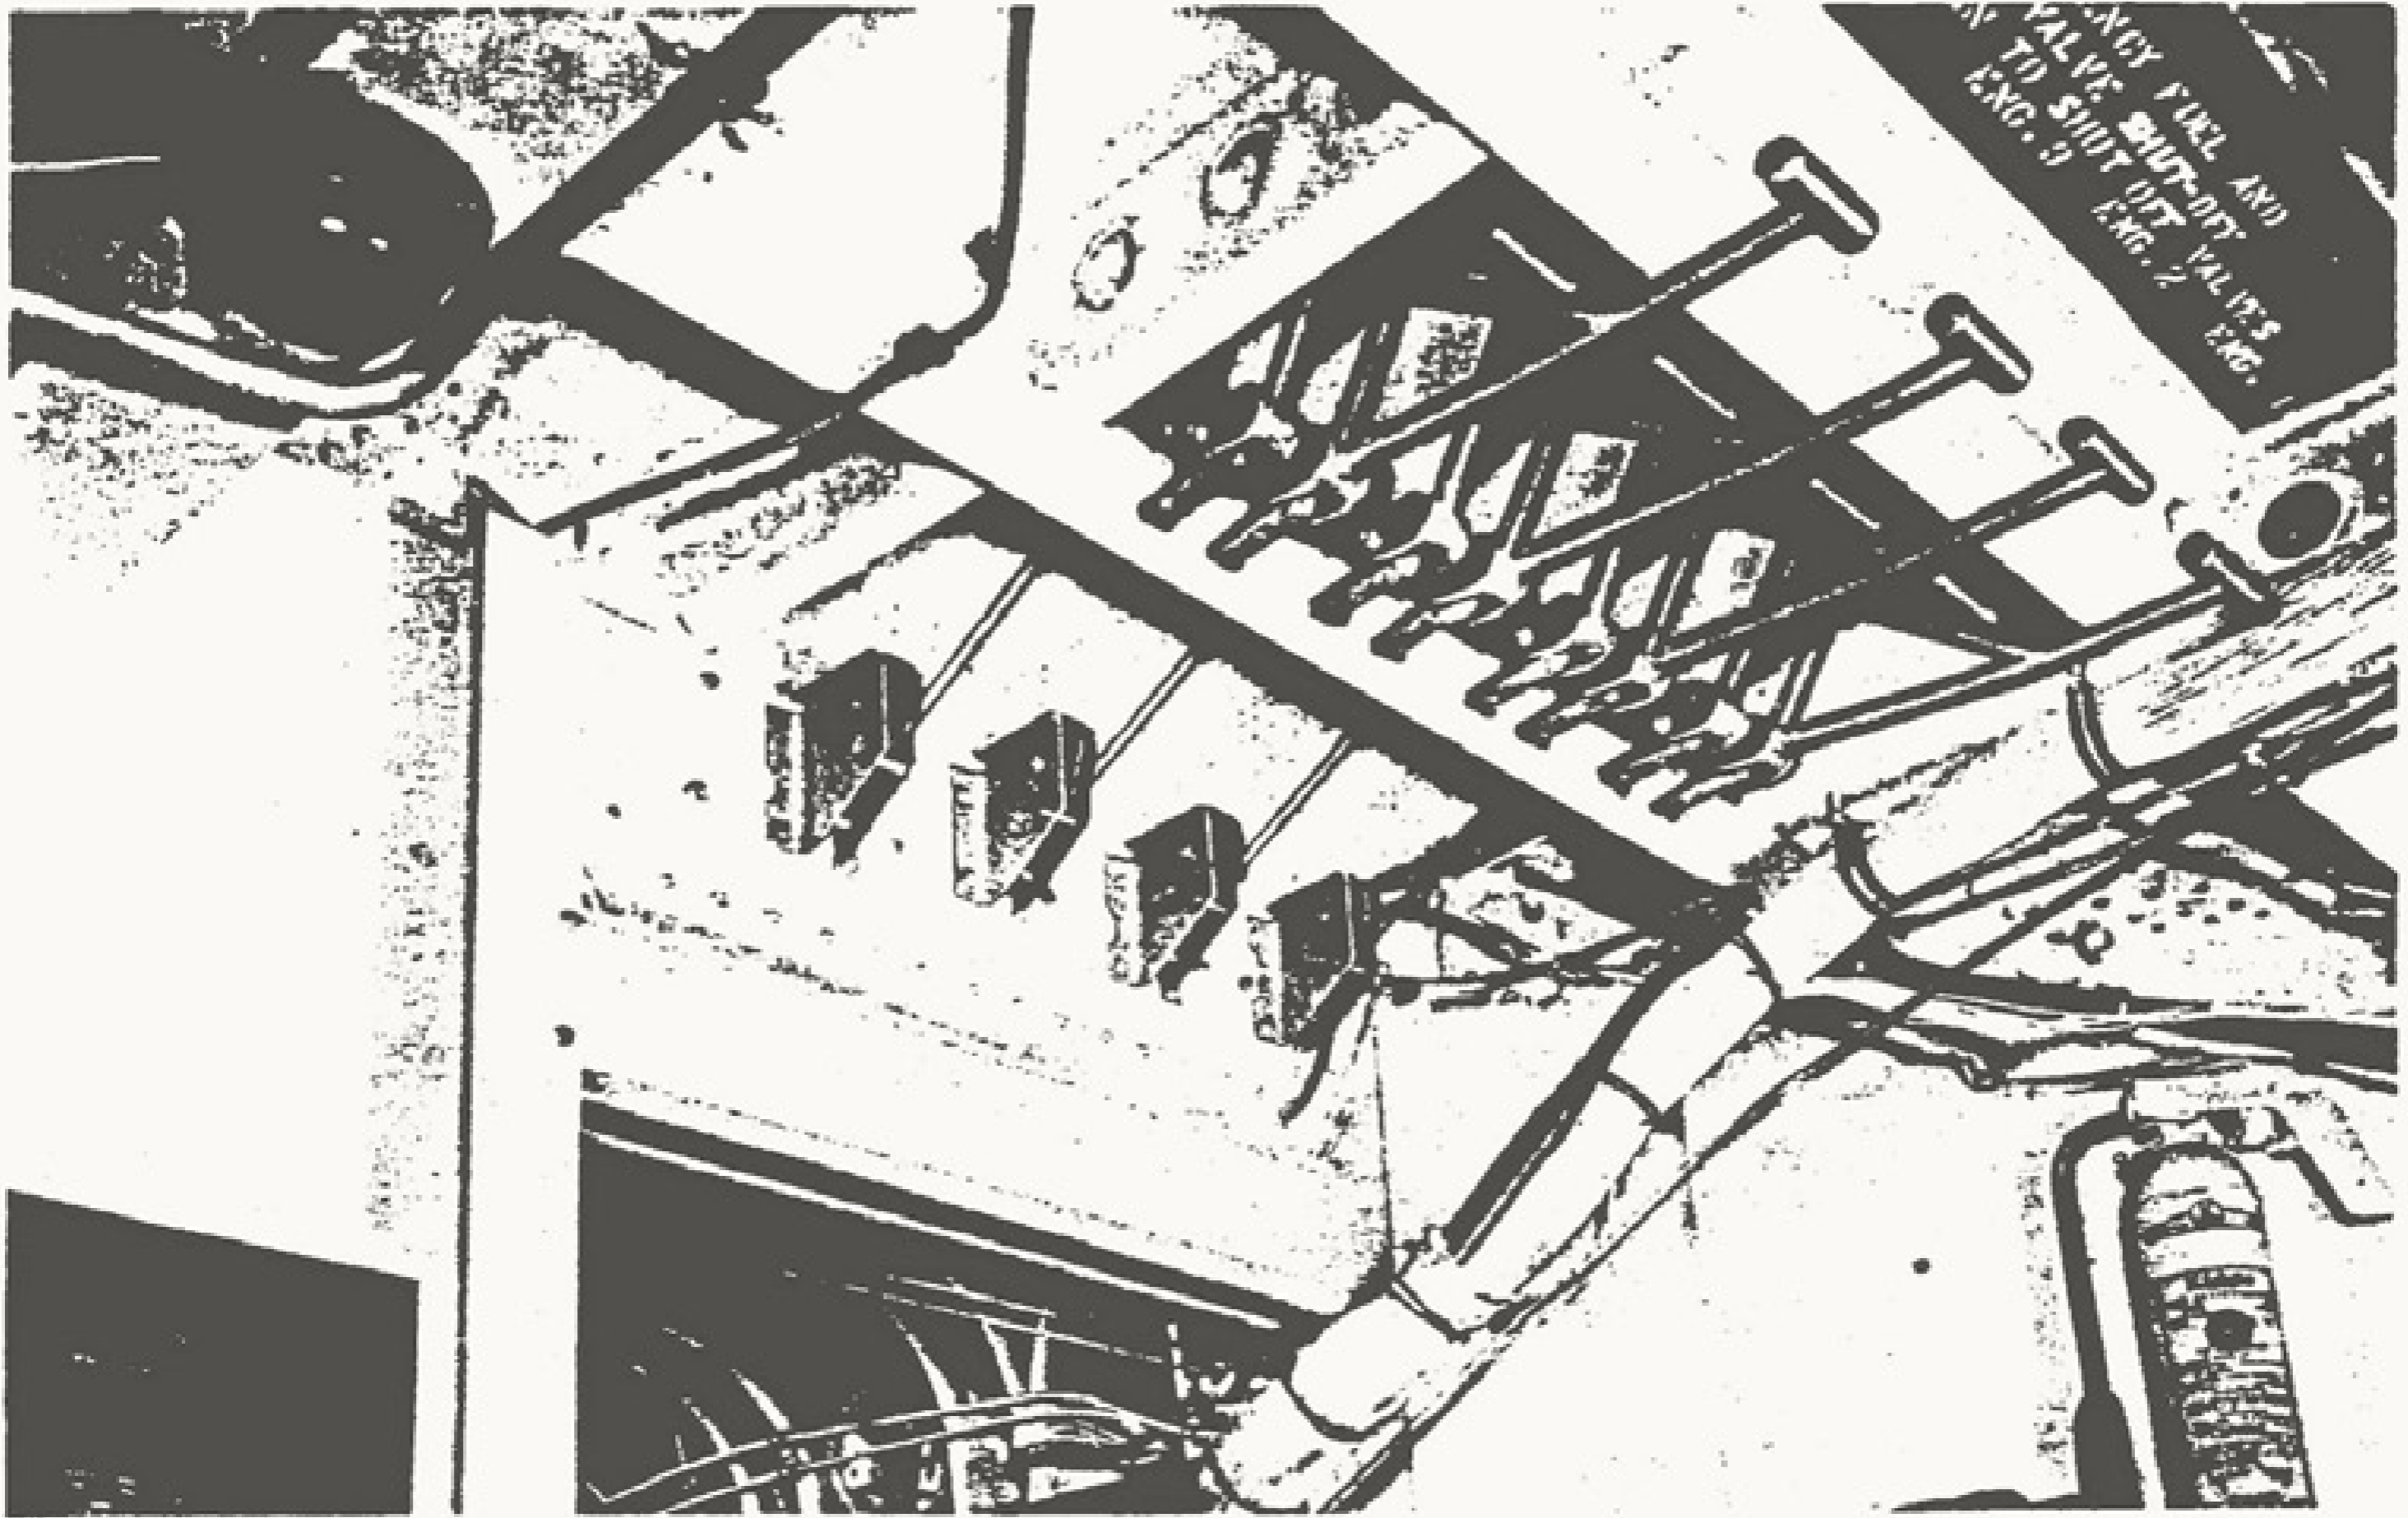

Figure 20. Emergency Fuel and Oil Shut-Off Controls
j. EMERGENCY FUEL SHUT-OFF CONTROLS. (See figure 20.)- Emergency shut-off controls are located overhead between the engineer and radio operator. Four handles, one for each engine, are operated by pulling them down as far as possible. The handles operate manual control valves and the valves are open when the handles are up. Oil shut-off controls are located adjacent to the fuel handles and when they are pulled, the fuel controls are also actuated.
c. OIL EMERGENCY SHUT-OFF CONTROLS.- Oil emergency shut-off control handles are located adjacent to the emergency fuel shut-off handles in the top of the cabin between the engineer and radio operator. When these handles are pulled down, they also actuate the fuel shut-off handles. (See figure 20.)